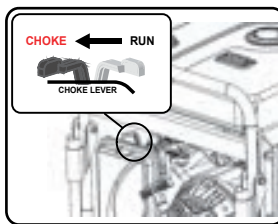

Fig 10
- Slide the choke lever to the "Choke" position. (See fig 10) **SKIP THIS IF THE ENGINE IS WARM OR HOT.**
- Slide the choke lever to the "Choke" position. (See fig 10)